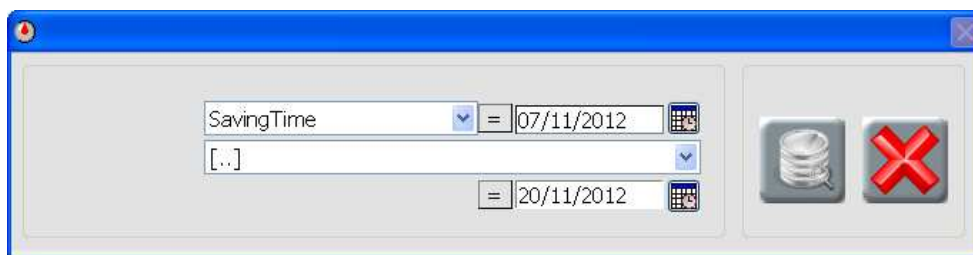

Fig. 6-25
- If you want to search for a test between two parameters, for example, tests that were carried out between two dates, select '['...' from the middle drop-down list and enter parameters in both the cells (see Fig. 6-25).